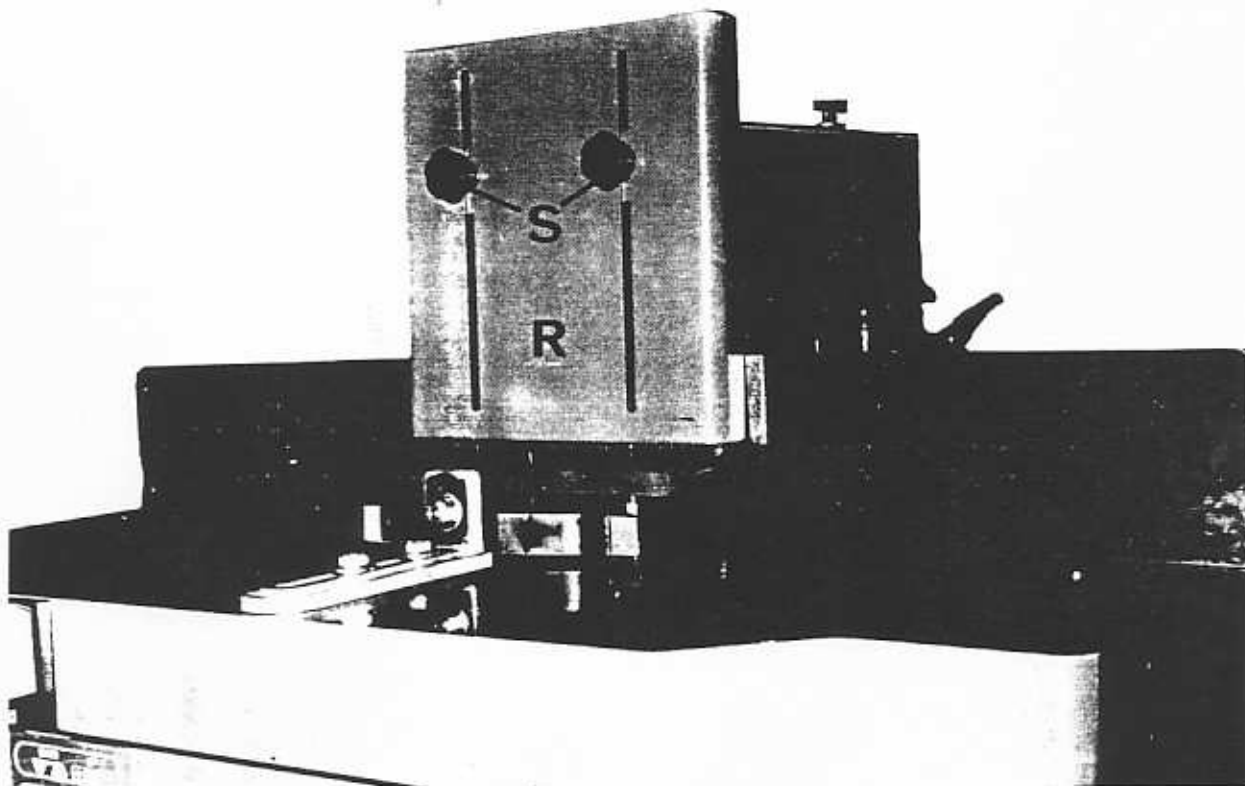

FIG. 11
- e) A safety visor "R" FIG.11 is fitted to safety guard "N" and is adjustable to protect the operator from the rotating cutters. To adjust guard, loosen the 2 handwheels "S", position guard to cover cutters as much as possible, then relock handwheels "S".